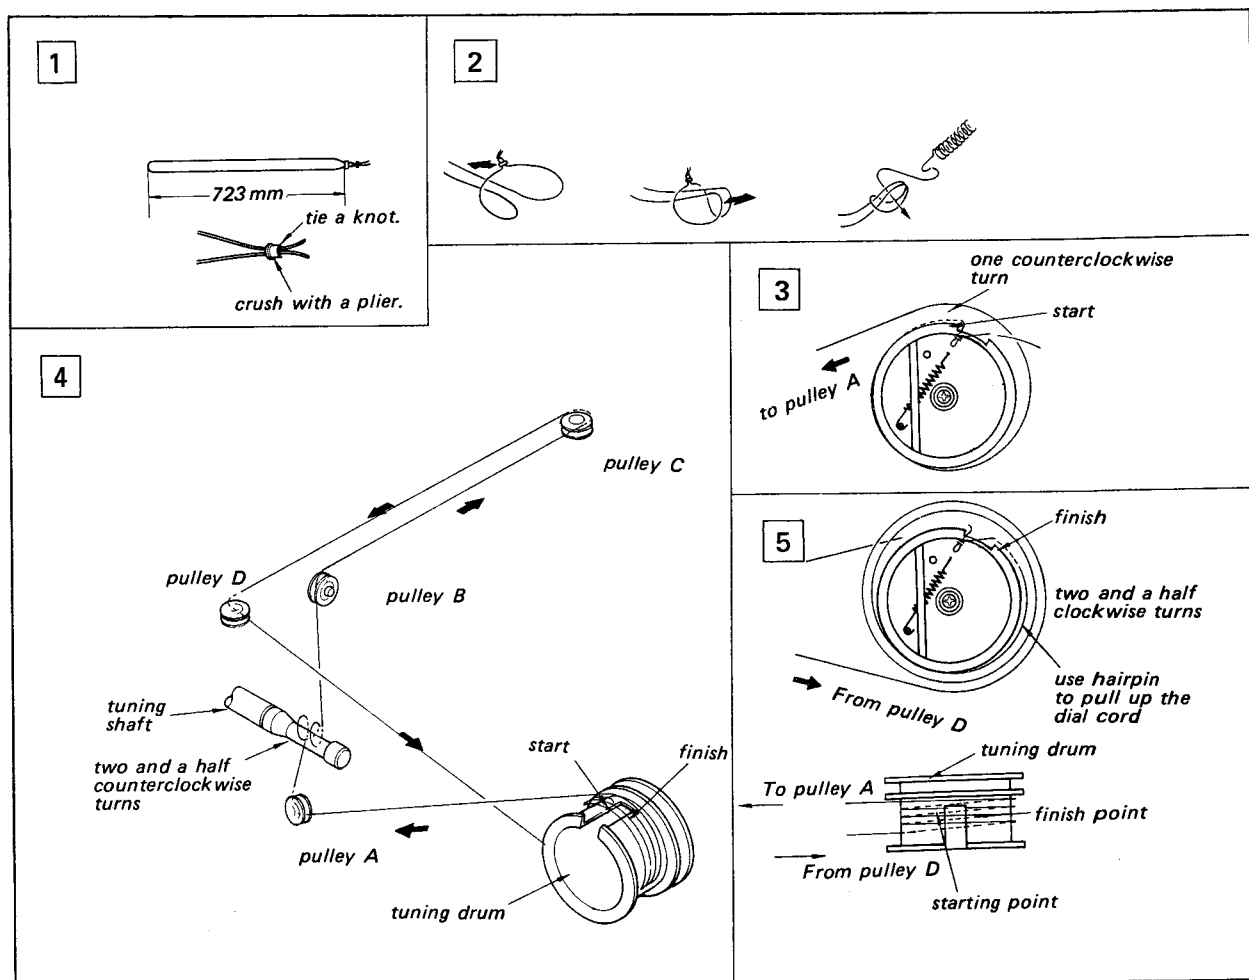

Fig. 2-5. Dial cord stringing
2. String the dial cord as indicated in Fig. 2-5.